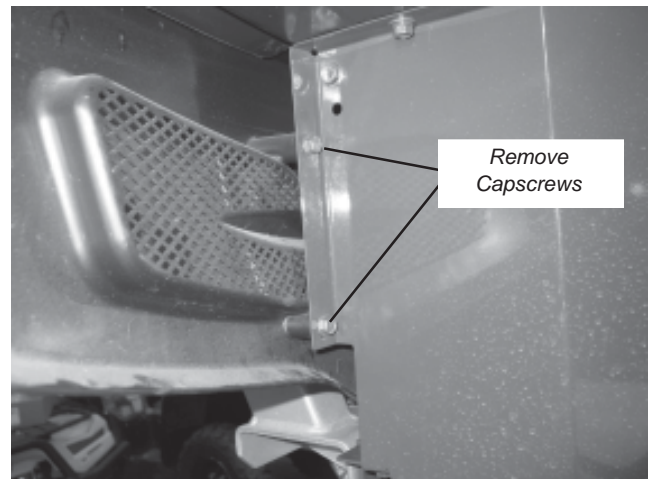

Figure 2
2. Remove two hex head capscrews, on rear inner side of grill on both sides, using a 12mm socket as shown in Figure 2.